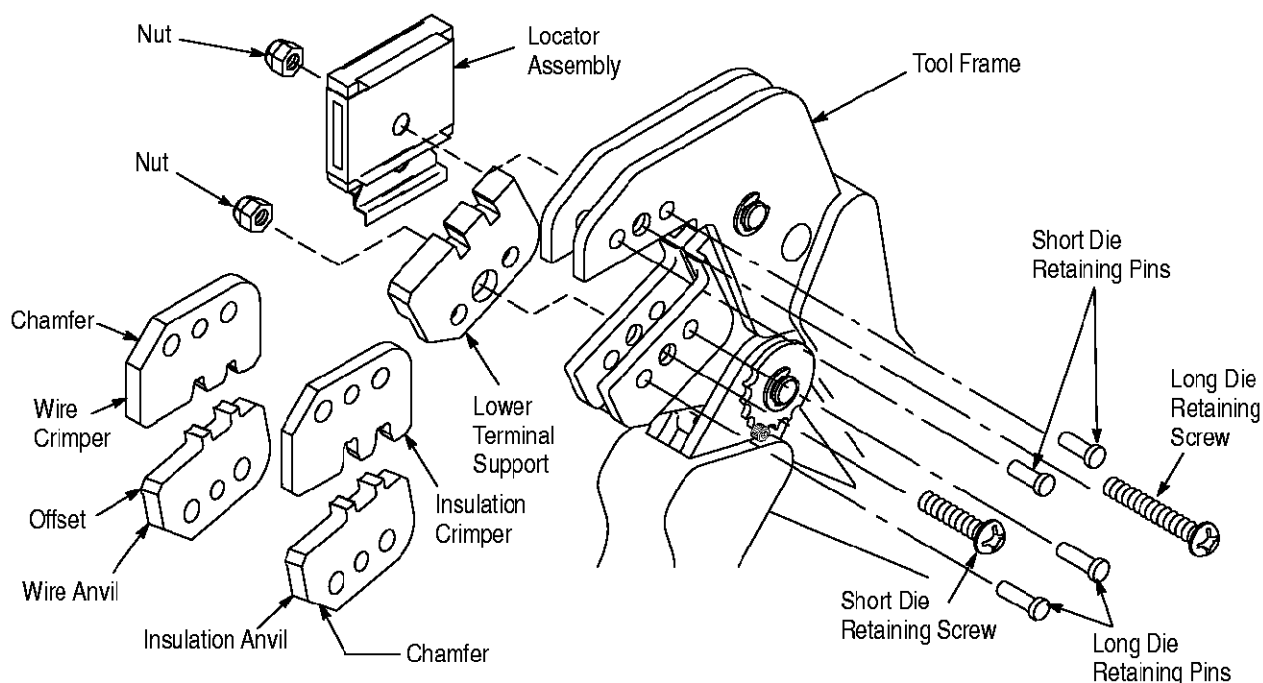

Figure 2
3. INSTALLATION AND REMOVAL OF DIE SET, LOCATOR ASSEMBLY, AND LOWER TERMINAL SUPPORT (Figure 2)